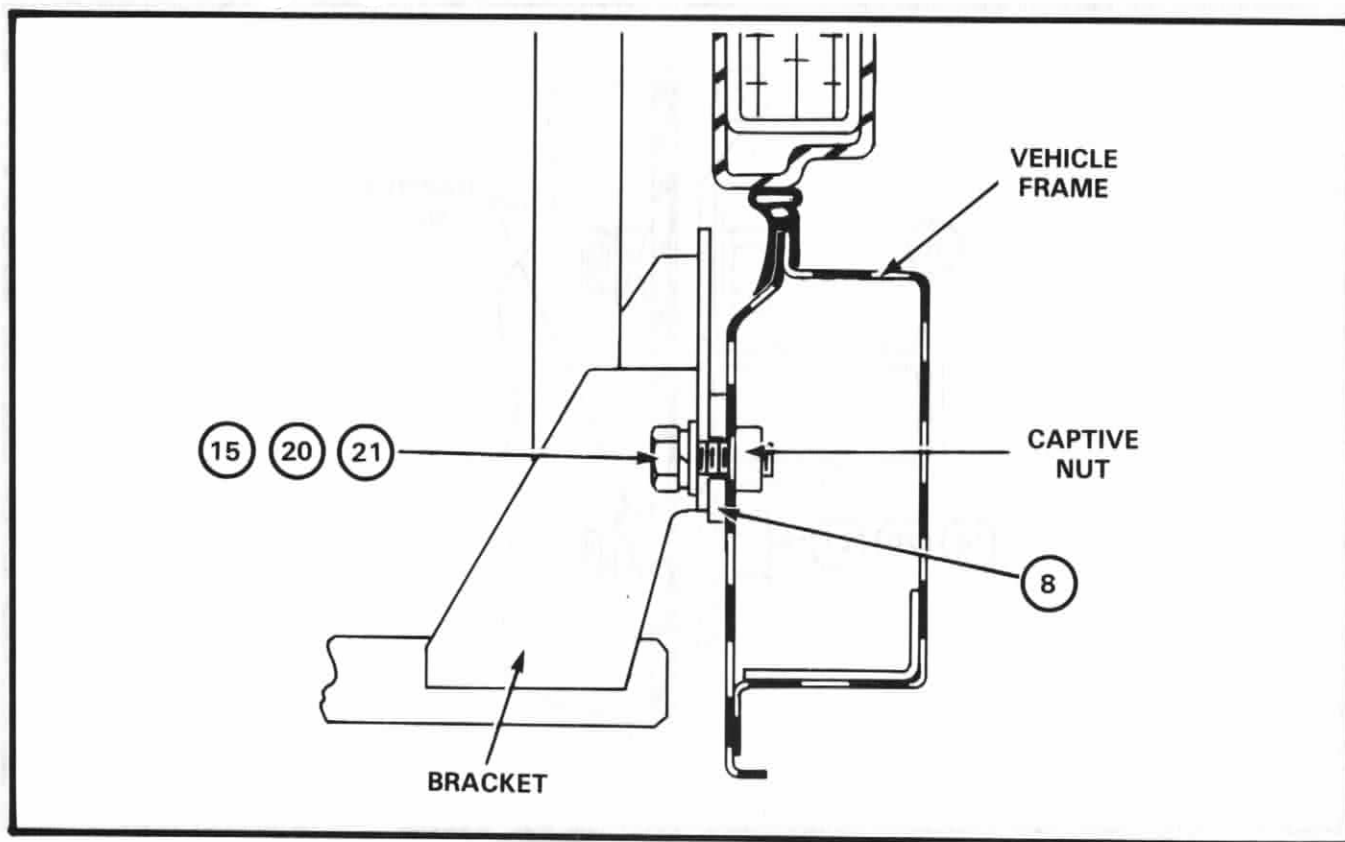

Figure 4 Securing Wheel Carrier Lower Mounting Bracket
- e. See Figure 4. Fit the lower mounting bracket to the existing screw holes and install the spacer (8) between the vehicle frame and lower mounting bracket. Secure the bracket using two flat washers (20), lock washers (21) with screws (15).